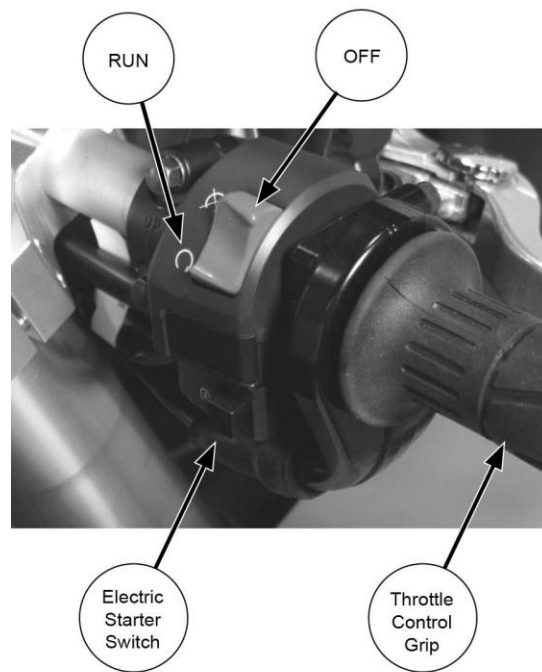

Figure 7. Right Handlebar switch.
See Figure 7. The electric starter switch is located on the right hand controls. Pushing in the electric starter switch engages the electric starter and starts the engine if ignition power is ON. See OPERATING RECOMMENDATIONS, Starting the Engine
See Figure 7. The engine OFF/RUN switch turns the ignition power on or off. The engine OFF/RUN switch is located on the right hand controls. Push the top portion of the engine OFF/RUN switch to turn off ignition power and shut the engine off. Push the bottom portion of the engine OFF/RUN switch to turn on ignition power.
1. See Figure 7. The throttle control grip is located on the right handlebar and is operated with the right hand. Turn throttle control grip clockwise (toward the front of the vehicle) to close the throttle and decelerate.